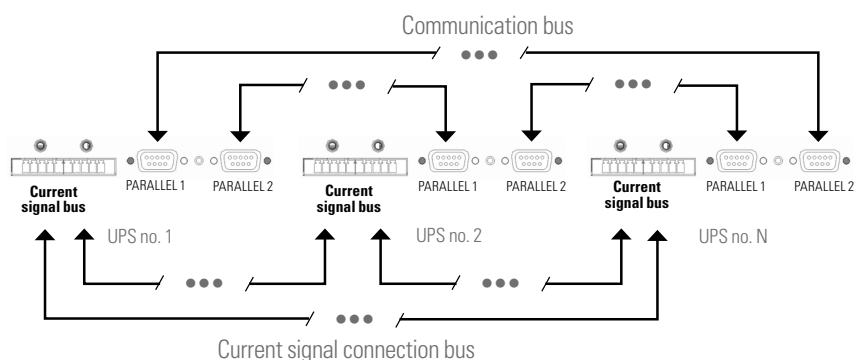

Fig. 66. Current signal and communication bus connection.
- **Current signal bus.** Use the cable with connectors at the ends to connect the current signal between consecutive devices, as shown in Fig. 66. Lastly, close the bus loop between the last and first devices.